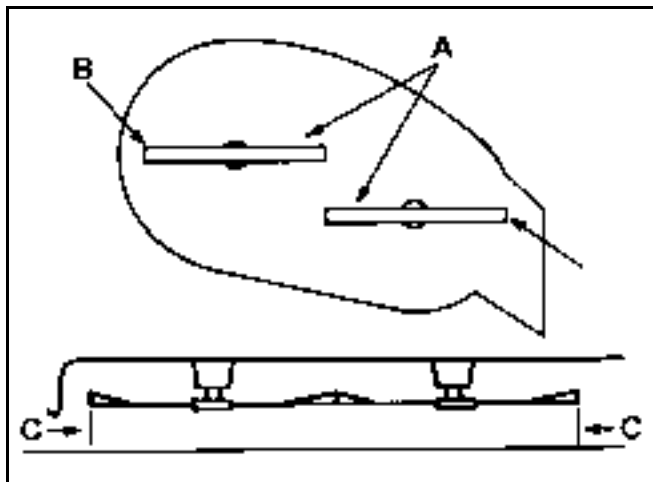

Figure 222
- Carefully rotate blade(s) side to side (Figure 222). Measure between the outside cutting edges and the flat surface (Figure 222). If both measurements are not within 3/16" (5mm), an adjustment is required; refer to steps 5 and 6.